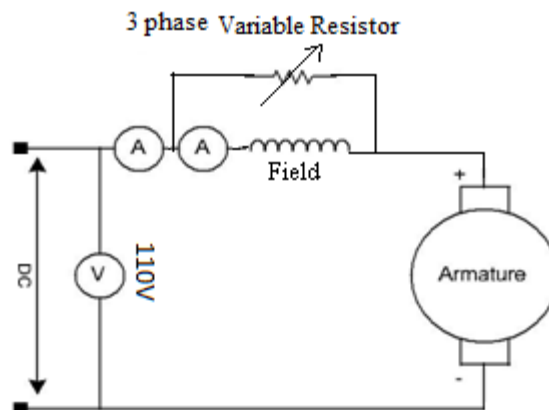

Figure 8.1. Speed control of DC series motor using flux control
In flux control method, a variable resistance also called flux diverter is connected in parallel with the field winding. Its purpose is to divide some portion of line current from series field winding, thereby weakening the flux and increasing the speed since speed is inversely proportional to flux ($N \propto 1/\phi$). The lowest speed obtainable is that corresponding to zero current in the diverter and it is also the normal speed of the motor. Consequently, this method can only provide speed above the normal speed of motor. The circuit diagram for speed control of series motor using Flux Control Method is shown in Figure 8.1
1. Make connections as shown in the Figure 8.1 by placing a variable resistance in parallel with the field winding.